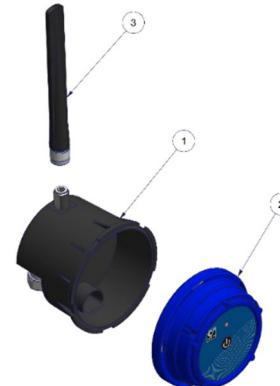

Figure 1 MD35 parts
- c. (1) or (A): Circled numbers and letters in the text refer to the parts described in Figure 1 and 2 respectively (example: Figure 1 - page 5)